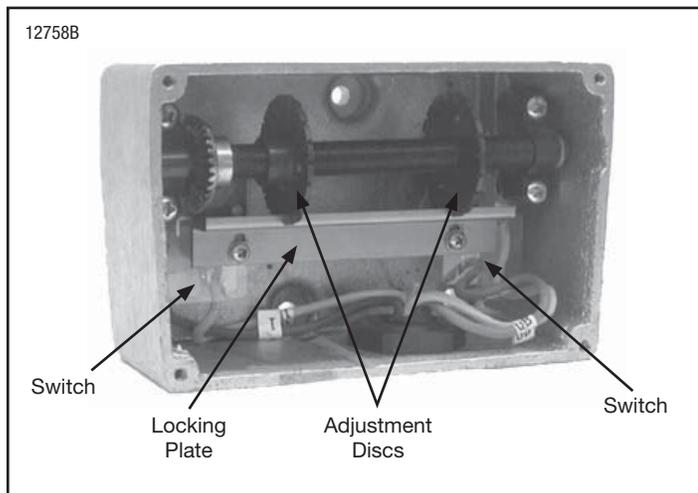

Figure 7-2. Screw-Type Limit Switch Adjustment (Wires Not Shown for Clarity.)
- b) Procedure. Remove load from the hook. To disconnect the geared limit switch, refer to Figure 7-2. Remove the limit switch cover then loosen the two (2) screws holding the locking plate in place. Allow the locking plate to slide down and disengage from the adjustment discs. Do not rotate the adjustment discs.
Position the lower block three inches (3") below the point where the block operated limit switch is activated. The geared limit switch shall be reconnected by sliding the locking plate back into position ensuring slots on adjustment discs are fully engaged and tightening locking plate screws to 4 in-lbs. (See Figure 7-2). The geared limit switch must then be tested.
This limit switch has a rotary screw driven by a gear reduction that is coupled to the end of the drum shaft. Adjustment discs operate the contacts of separate switches, one for the hoisting circuit and one for the lowering circuit. The switch assembly must be wired in accordance with the appropriate wiring diagram, which is shipped with the hoist. Instructions for adjusting limit switch are inside cover and are repeated below (see Figure 7-2).